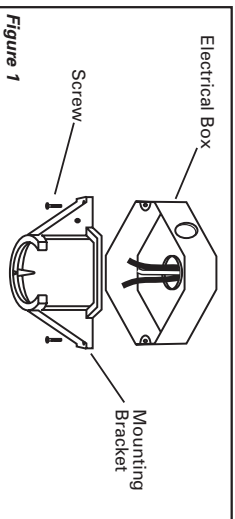

Figure 1
- Attach the hanger bracket to the electrical box capable of reliably supporting at least 50 pounds. Insert the screws through the slotted holes in the bracket and attach to the electrical box. Tighten both screws to the electrical box. (Figure 1)